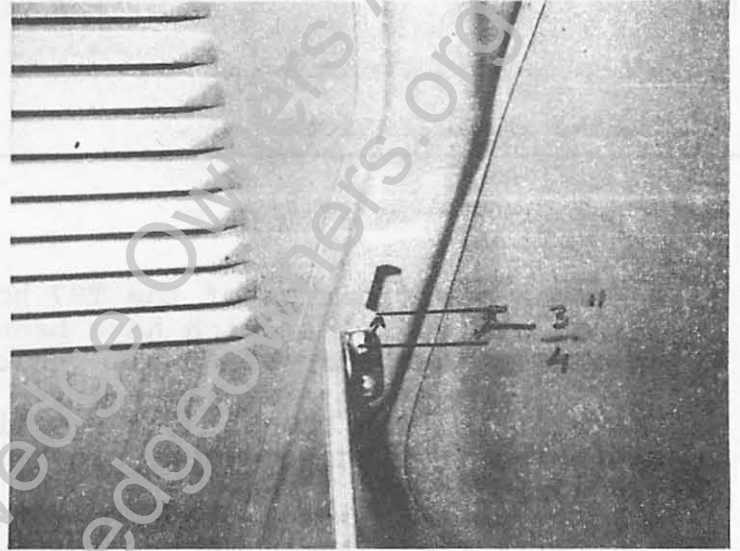

FIG. 2
2. Drill two 1/8" holes to the underside of the hood as shown in Fig. 2, and attach the hood stay using the two self-tapping screws and shakeproof washers supplied.